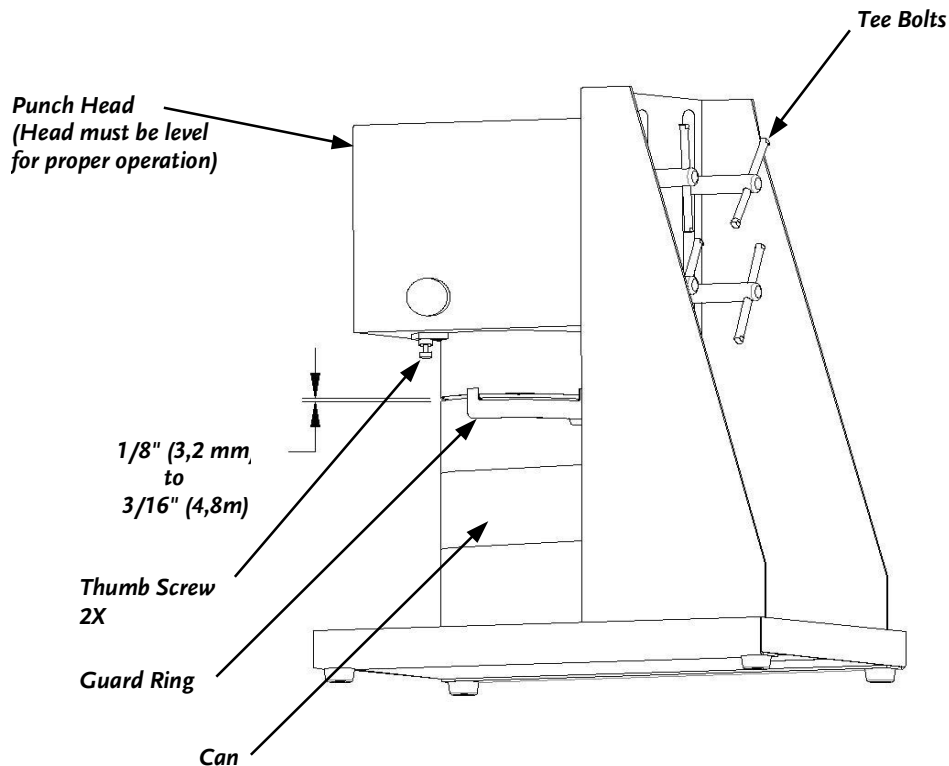

Figure 3
3. Insure the "T" handles are tight. They are located behind the head of the crown punch machine. The height, with the guard ring in place, must be such that when a can is in position under the crown punch, from the can seam to the lip of the guard ring is approximately 1/8 (3,2mm) to 3/16 (4,8mm), (**Figure 3** on page 8).
2. Loosen the four (4) "T" bolts at the rear of the vertical (**Figure 3**) and raise or lower the Head as needed, keeping the can and guard ring aligned and level.
1. With one hand, hold up on the guard ring (**Figure 3** on page 8) and with the other hand, unscrew the two (2) Thumbscrews (**Figure 3** on page 8).
Remove the splash guard, crown punch, guard ring, and retainer clip (*Figure 3* on page 8) after every use for cleaning. You may rinse down the entire machine with soap and water to remove any residue from the unit.